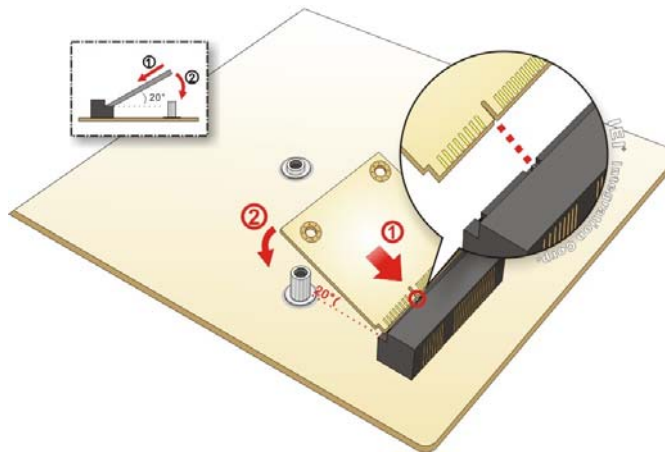

Figure 4-9: Inserting the Half-size mSATA Module into the Slot at an Angle
Step 5: Insert into the socket at an angle. Line up the notch on the card with the notch on the slot. Slide the mSATA module into the slot at an angle of about 20° (Figure 4-9).